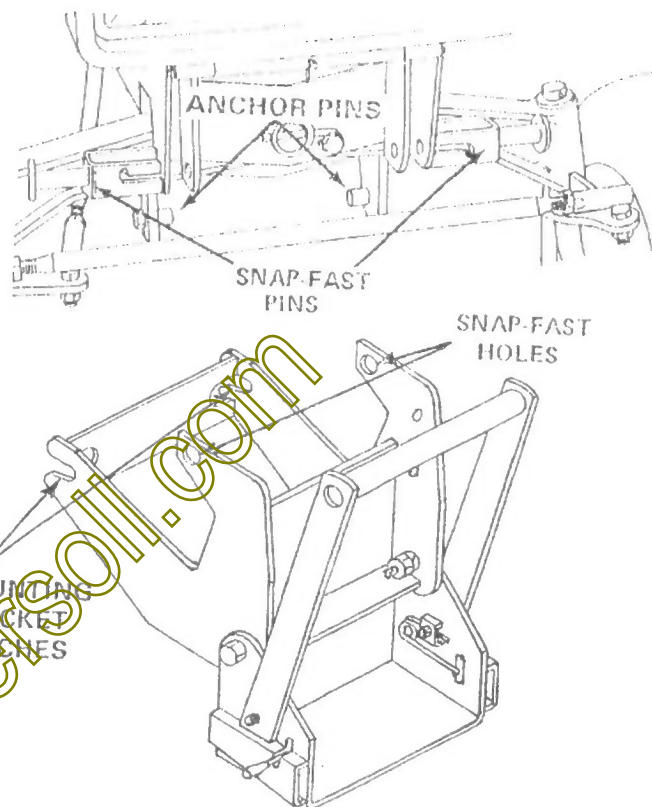

FIGURE 1
- c) Slide the quick hitch subframe to engage the mounting bracket notches with the anchor pins on the tractor (fig.1)
Insert the grommet (fig. 1, item 3) in the rotation support (item 1).